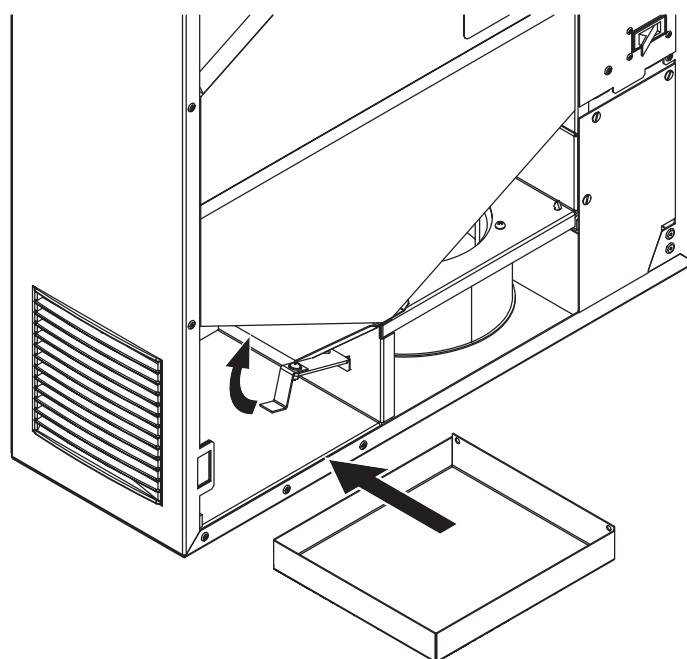

Fig. 18. Drain pan installation
5. Empty the drain pan, lift the condensate level switch and reinstall the drain pan back, Fig. 18.